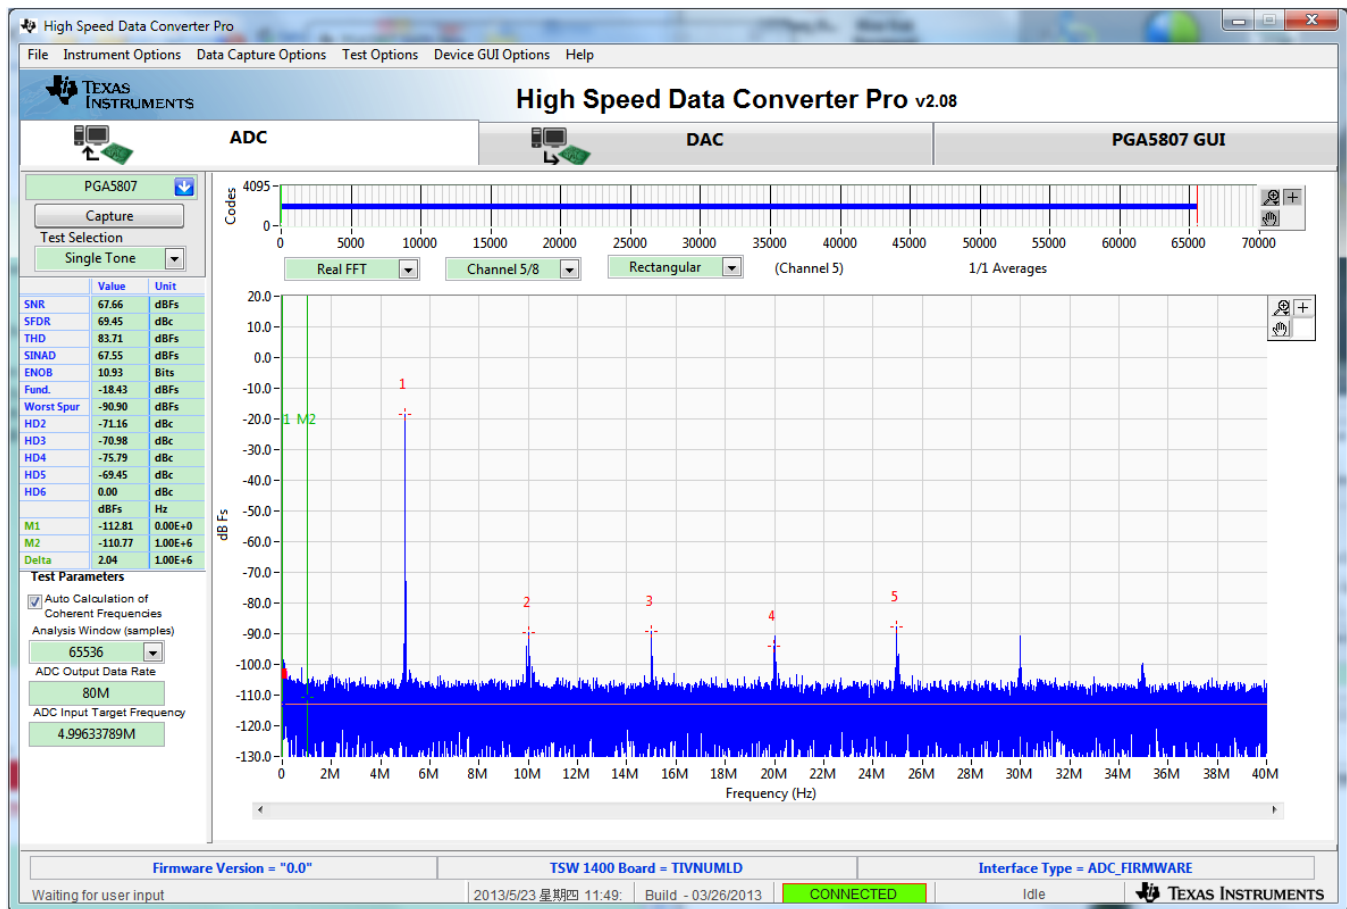

Figure 49. PGA5807A + ADS5296A Gain Test Capture 3
- Click on the *ADC* tab and press the *Capture* button to see the result shown in Figure 49.